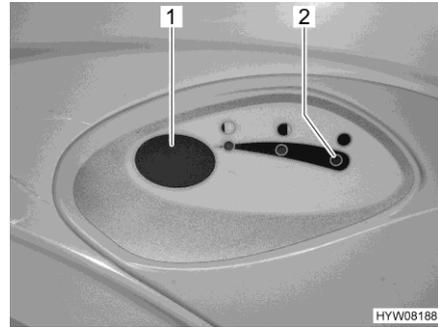

Fig. 286 Flush button/indicator lamp (Thetford toilet)
- For flushing, press the blue flush button (Fig. 286,1).
The indicator lamp (Fig. 286,2) lights up whenever the sewage tank has to be emptied.